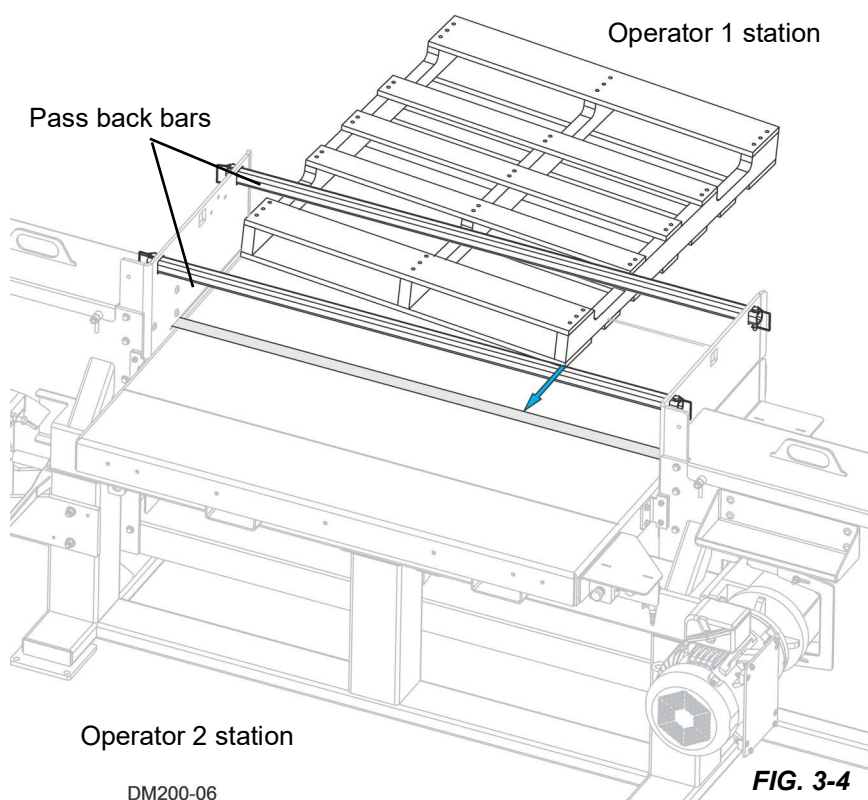

FIG. 3-4
9. **Operator 1:** With the pallet at a slight angle to the blade, push the pallet half way through the blade. (See Figure 3-4.)